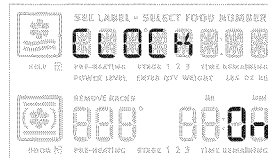

Fig. 2
1. Press and continue to press USER PREF until you reach the preset clock display mode -Fig. 2-.